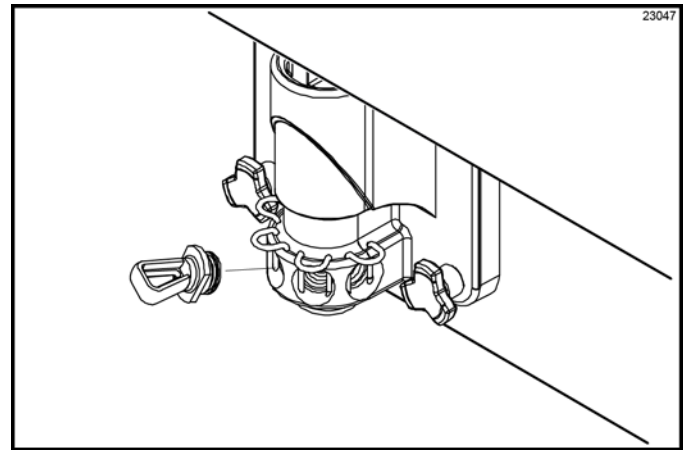

Figure 6-67
17. Raise each retainer pin. Install the syrup hole plugs in the syrup ports in the freezer door. Lower the retainer pins to secure the hole plugs in the door. (See Figure 6-67.)